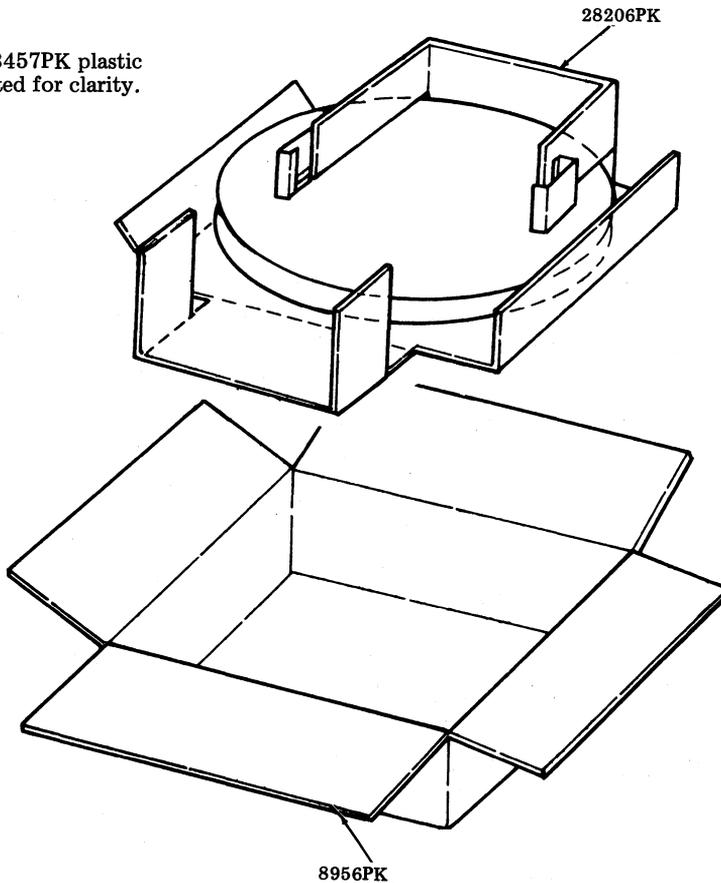

Fig. 40
- Step 3. Form 28206PK detail around unit as illustrated in Fig. 40.
- Step 4. Place unit and detail in carton. See Fig. 40.